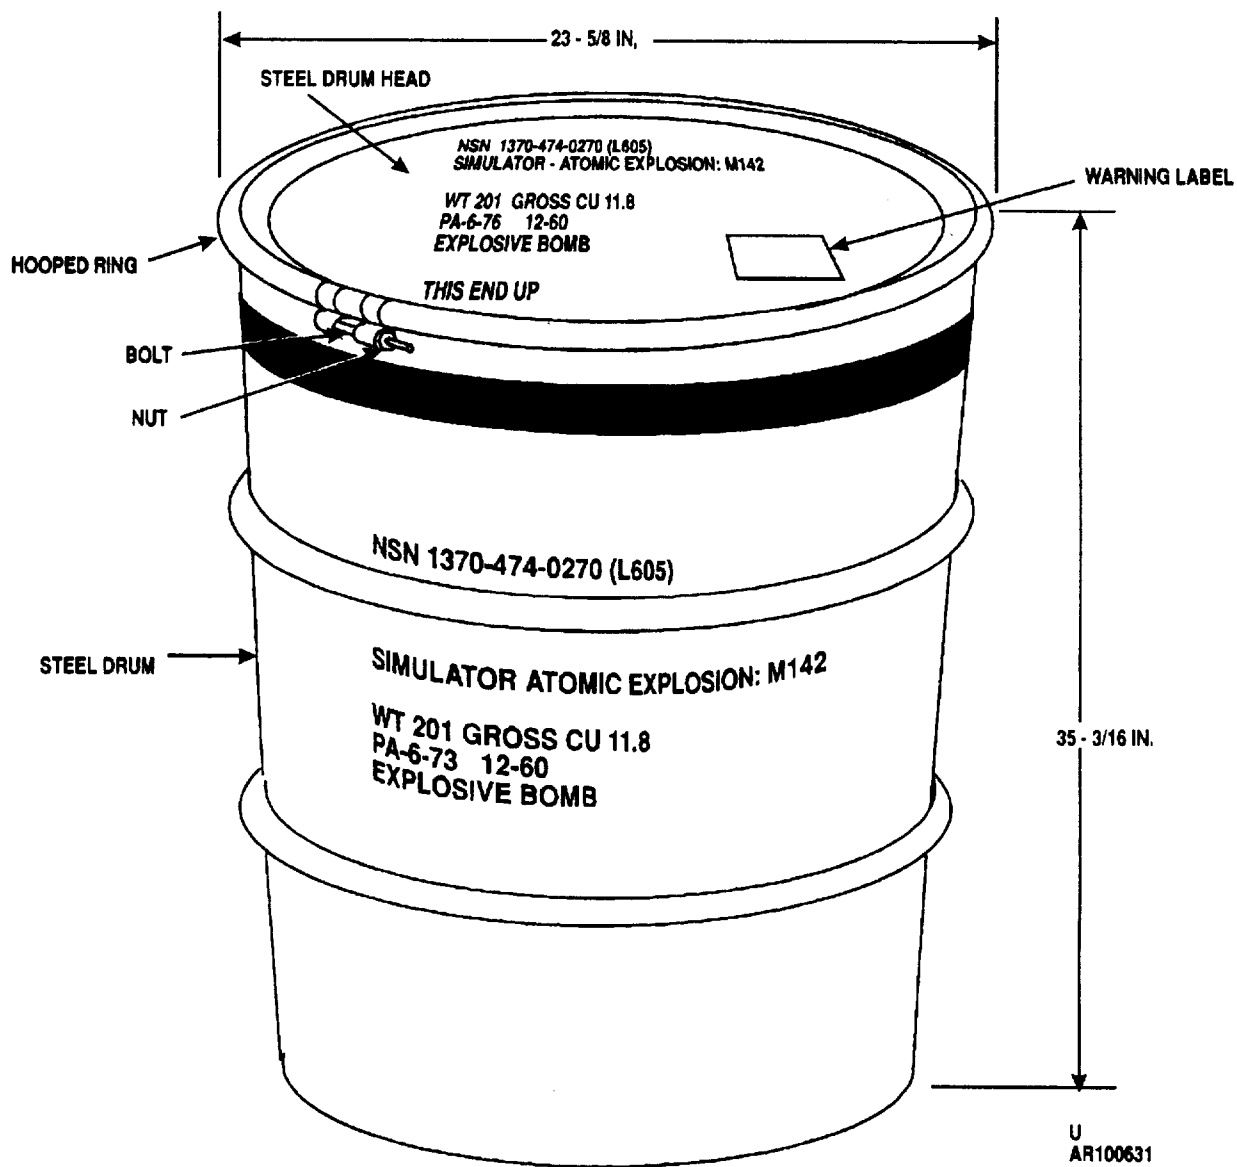

Figure 2-1. Atomic explosion simulator M142.
c. The following information must be legible on each box; and on steel drum of M142 Atomic Explosion Simulator (see fig. 2-1).
- (1) National (or Federal) Stock Number (NSN or FSN).
- (2) Department of Defense Identification Code (DODIC) (repeated on ends of box).
- (3) Department of Transportation (DOT) designation.
- (4) Quantity.
- (5) Nomenclature.
- (6) Lot number (repeated on ends of box).
- (7) Month and year loaded.
- (8) Gross weight.
- (9) Cubical displacement.